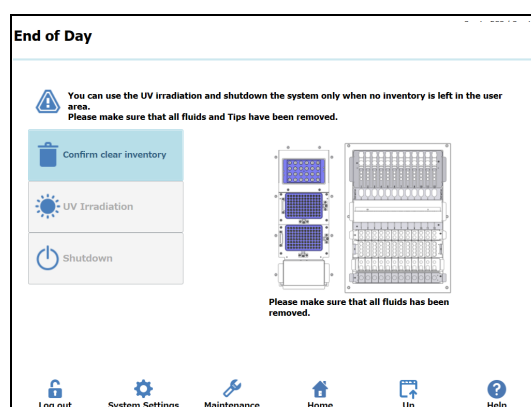

Figure 20: End of Day screen
26. On the Home screen, select “End of Day”. The following screen is shown (Figure 20).